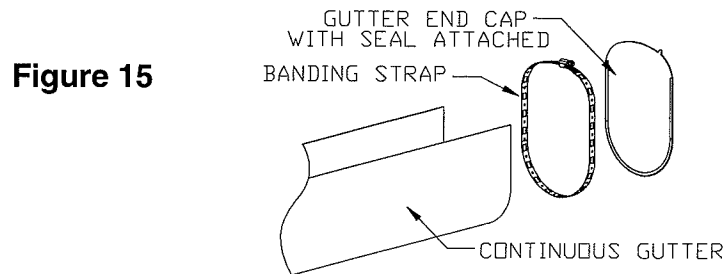

Figure 15
- K) Locate the gutter end cap and gutter end cap seal. Install the gutter end cap seal on the gutter end cap. Install the gutter end cap with seal in the end of the gutter opposite the pump as shown in Figure 15 using the banding strap to secure the end cap in the gutter.